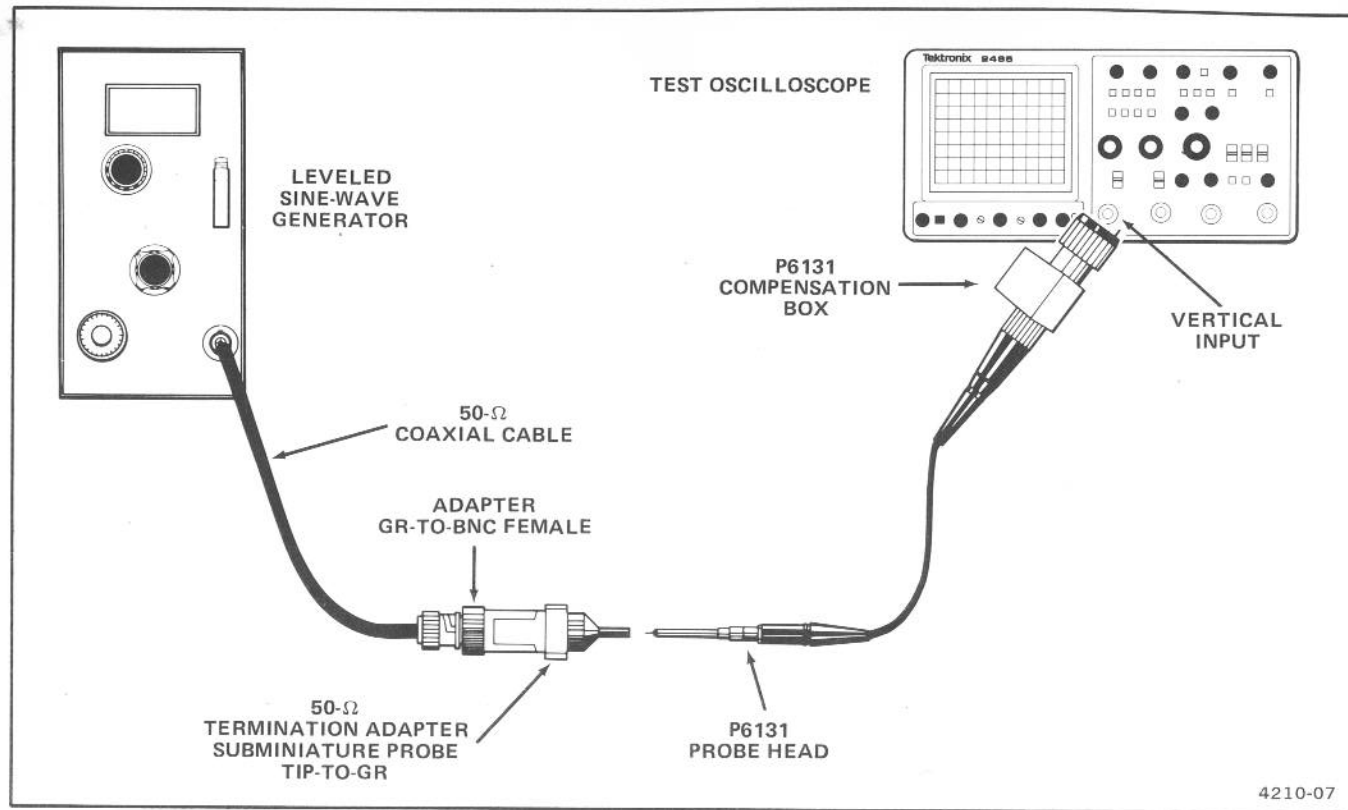

Figure 3-1. Test setup for checking bandwidth.
a. Connect the test setup as shown in Figure 3-1.